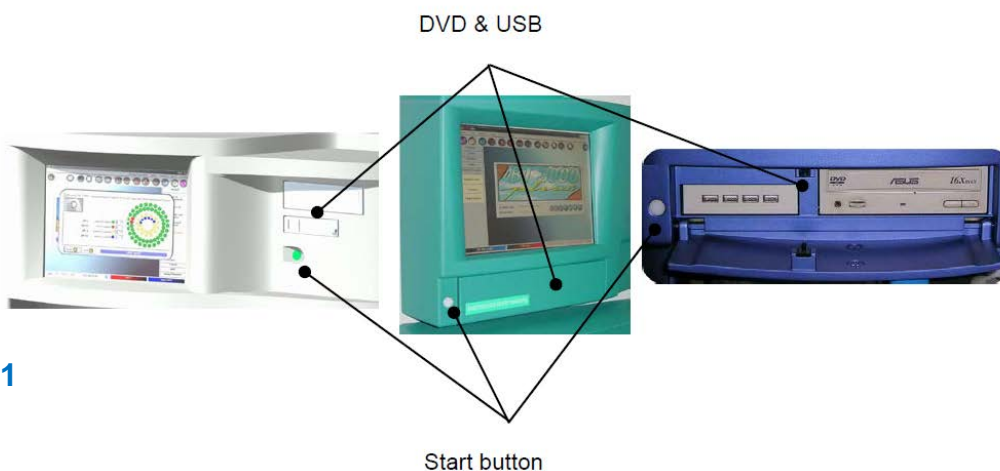

Figure 1
- 3) To switch on the analyzer, use the main power switch on the rear panel of the instrument. This button activates only the refrigerating system for the reagents. To properly turn on the analyzer system, momentarily press the green push-button placed on the front panel (Fig. 1). For what concerns the **BT1500**, verify first that the external PC is connected to the analyzer via USB, then turn the PC on and load the analyzer operative program.